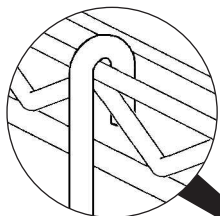

figure 8
- Clip the rods to the bottom shelf with the clips provided (see *figure 8*).
- Hook the rods where desired onto the outside of the top shelf (see *figure 8*).